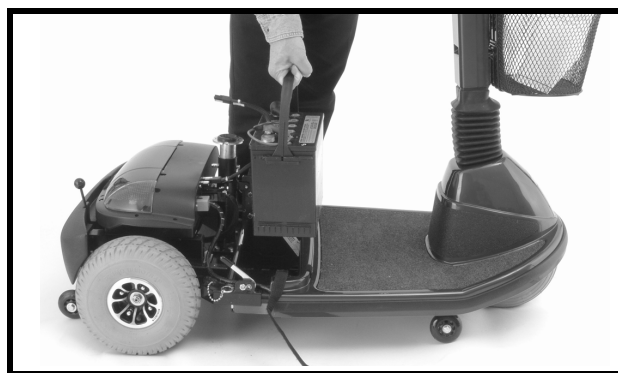

Figure 22. Battery Removal
7. Lift both batteries off the scooter. See figure 22.